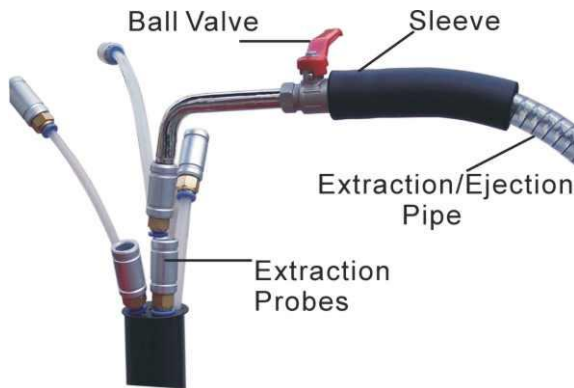

Fig. 2
1. after vacuum, choose suitable probe (which is the largest diameter one can be inserted into the engine) and tightly connect it to the extraction pipe connector. (refer to Fig.2)
3. Turn on the ball valve (Fig.2)
6. After finish extraction, turn off the ball valve (Fig.2) on the extraction pipe